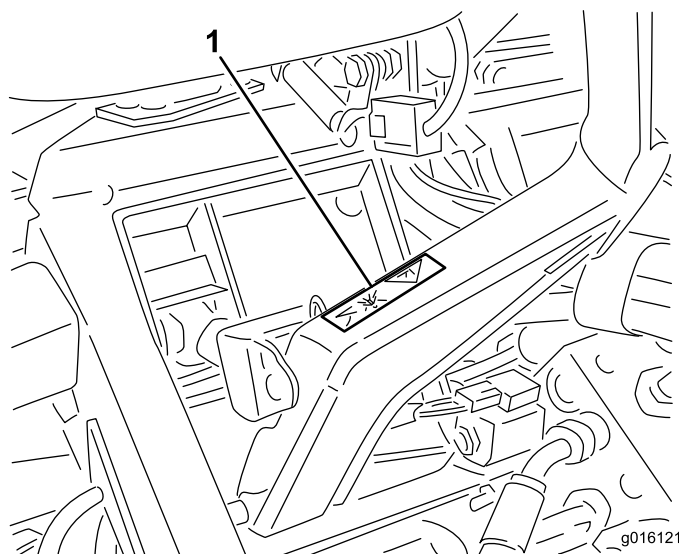

Figure 10
15. Attach decal, supplied with kit, near the spindle (Figure 10).